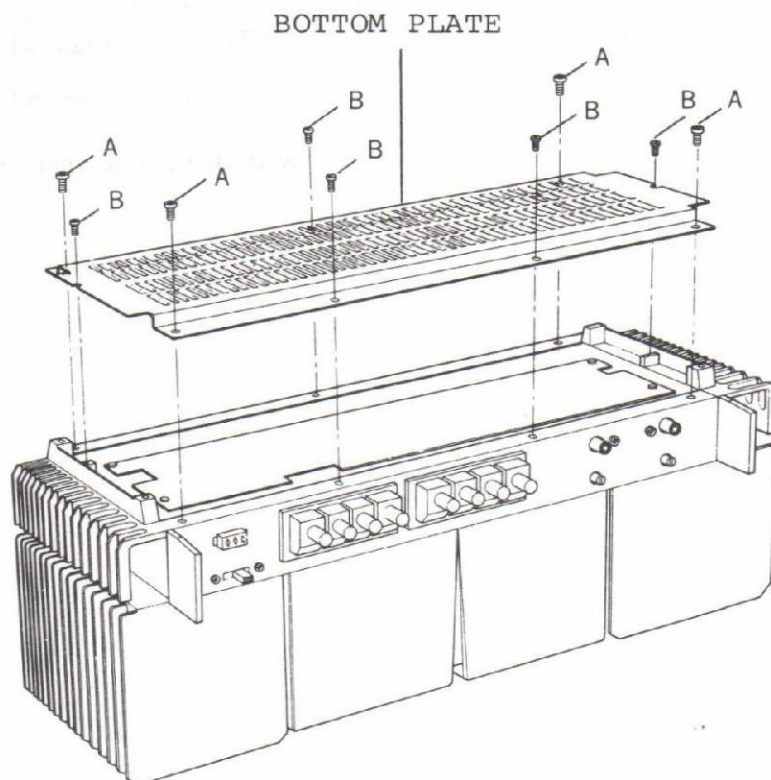

Fig.1
- 1) Remove screws as shown in Fig.1.